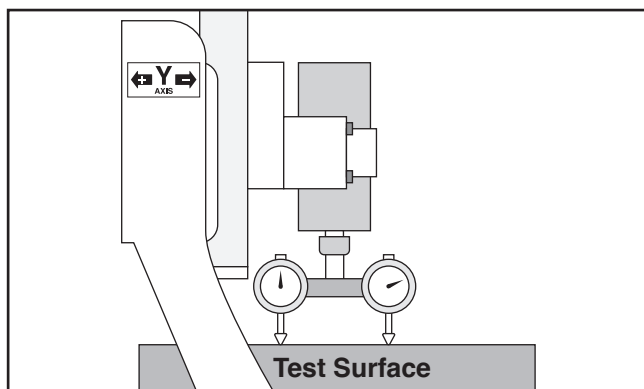

Figure 75. Example of tramping tool rotated 90° to measure Y-axis.
7. Rotate tramping tool 90° until indicators are oriented along Y-axis (see **Figure 75**).